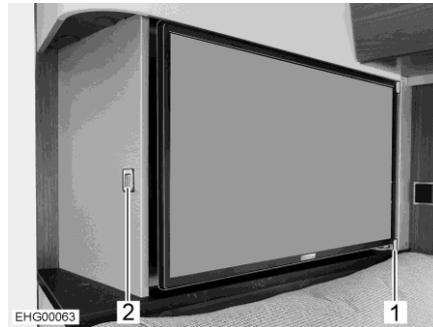

Fig. 90 Flat screen
Flat screen, integrable The flat screen is secured on the side by a guide rail (Fig. 90,1).
- Press the release button (Fig. 90,2).
- Pull flat screen out of the guide rail (Fig. 90,1), into the desired position.
- Push flat screen back until it engages in the guide rail (Fig. 90,1) on the side.